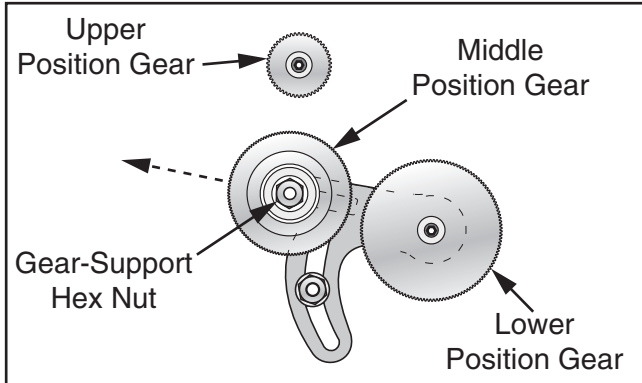

Figure 73. Sliding middle position gear away from lower position gear.
- Loosen gear support hex nut and slide middle gear away from lower position gear, as shown in **Figure 73**.